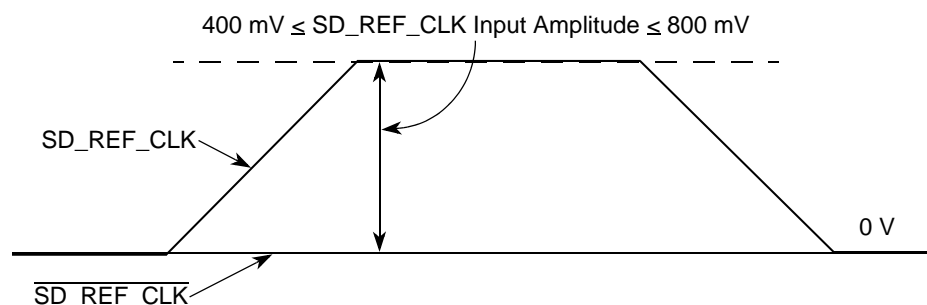

Figure 26. Single-Ended Reference Clock Input DC Requirements
- The SD_REF_CLK input average voltage must be between 200 and 400 mV. Figure 26 shows the SerDes reference clock input requirement for the single-ended signaling mode.